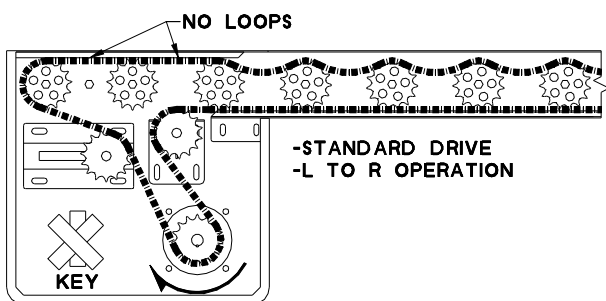
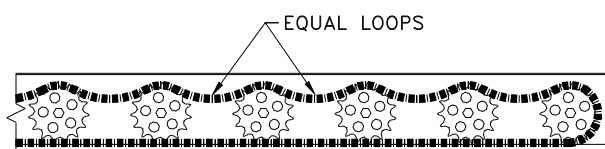

Fig. 3.8
Fig. 3.10
Before start-up, the power roller chain must be realigned. Turn the main sprocket counter-clockwise (Right to Left operation), or clockwise (Left to Right operation) until chain is tight on bottom of sprockets [See Fig. 3.8 and 3.9]. Loop the chain on top of the sprockets to take up all excess slack, as show in Fig. 3.10. For standard drives (motor on bottom) the chain will not loop for the first three (3) rollers over the drive housing [see Fig 3.8]. Be sure to start up the Power Rollers to verify the correct direction of the motor, before installing the key. The motor should turn in the same direction as mentioned above. The key will be taped to the inside of the motor housing.